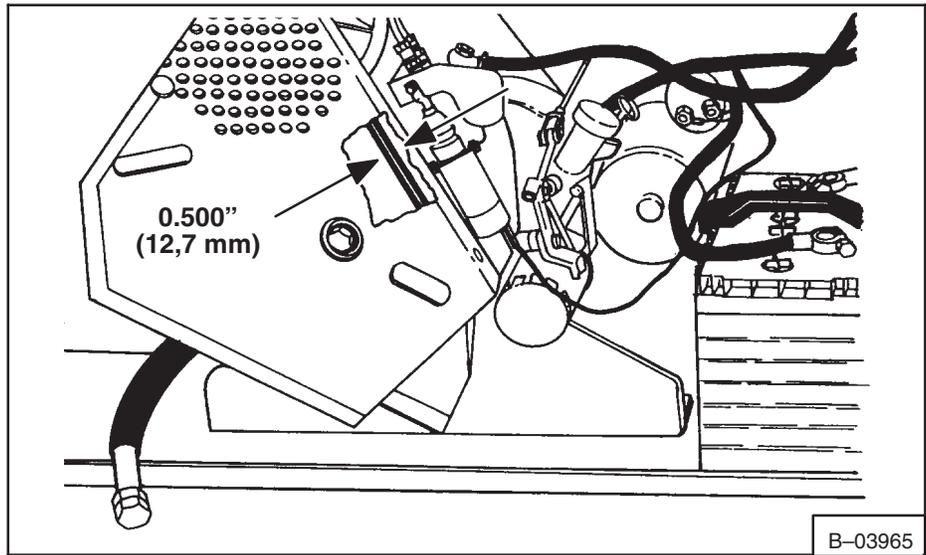

Fig. 1-30 Drive Belt Adjustment (641)
2. Loosen the adjustment bolt and move the alternator to adjust tension at 0.500 inch (13 mm) (Fig. 1-30). Then tighten the adjustment bolt.